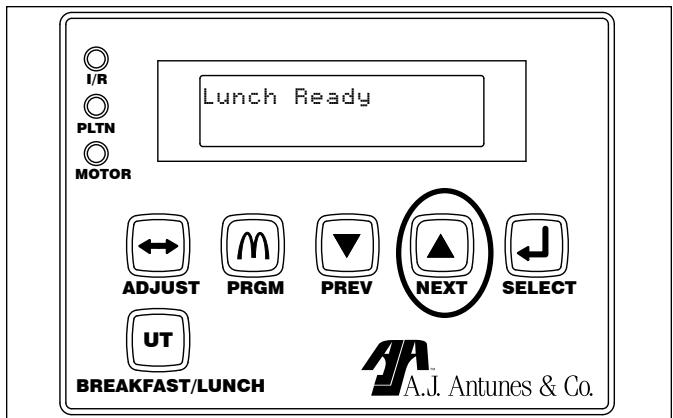

Figure 5. Purging Products: Front of Unit
With the unit in any READY or WAIT mode, open the front Cover. Press and hold the **NEXT** arrow button until the product is purged from the unit. See Figure 5.
- Verify that the Bun Thickness Compression Control knob is set to 3 (Figure 5).